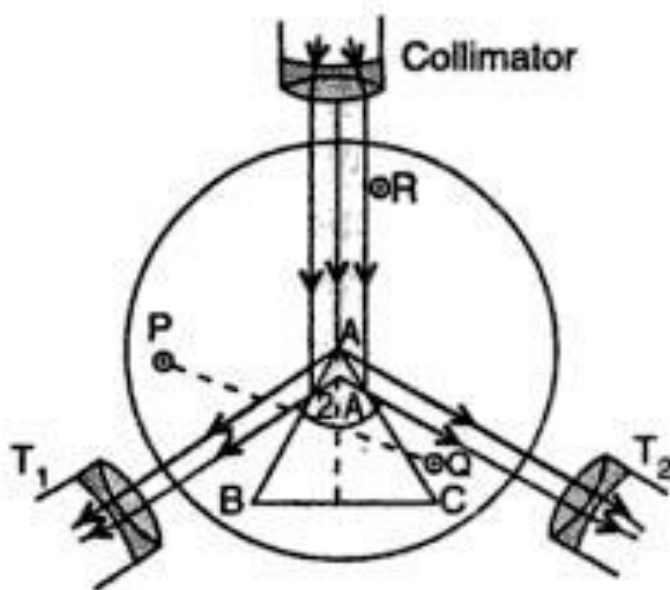

Fig.2 Setup of spectrometer of experiment.
7. Place the prism on the prism table so that its centre coincides with the centre of the table and one of the reflecting faces say AB is perpendicular to the line joining the two screws P and Q . Rotate the table so that the light from the collimator is incident on the reflecting face AB and after refraction passes out of the face AC as shown in Fig.2.